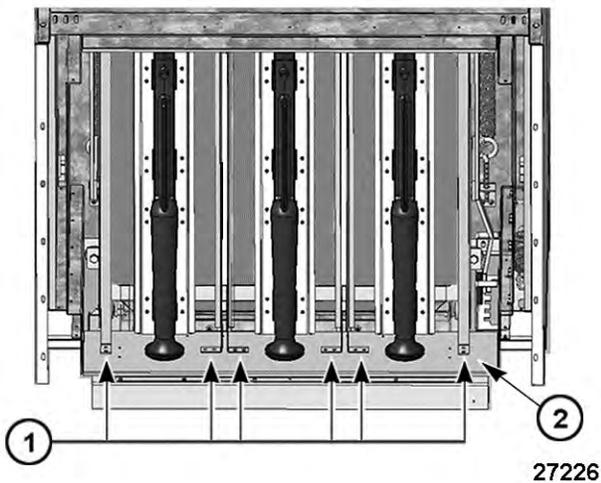

Fig. 17
9. Reach underneath burner support to access the support rails [1] Fig. 17 (qty 6) that hold the ceramic bricks in place. Remove screws (qty 2) Fig. 17 securing each support rail to the rear of burner support. Top view shown in Fig. 17.